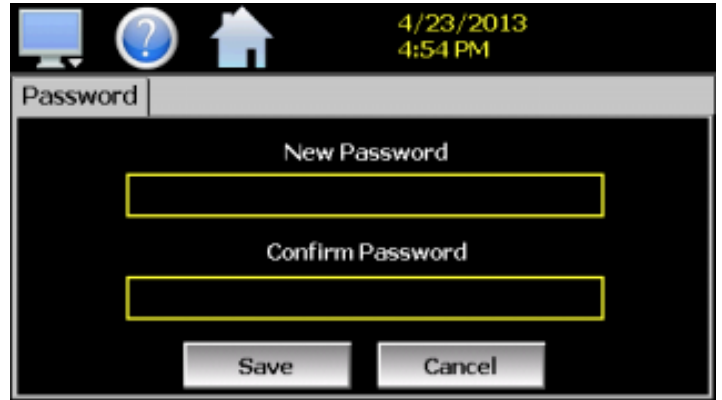

Fig. 34: Password Screen - Change User Password box "New Password."
4. At the Password screen (Fig. 34), tap inside the yellow